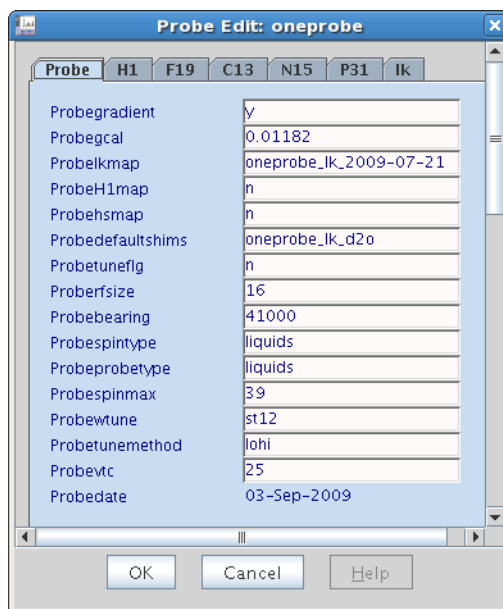

Figure 16 Probe file edit window
- 4 Check the **Edit** button—editing options appear in the Probe window, see Figure 16.